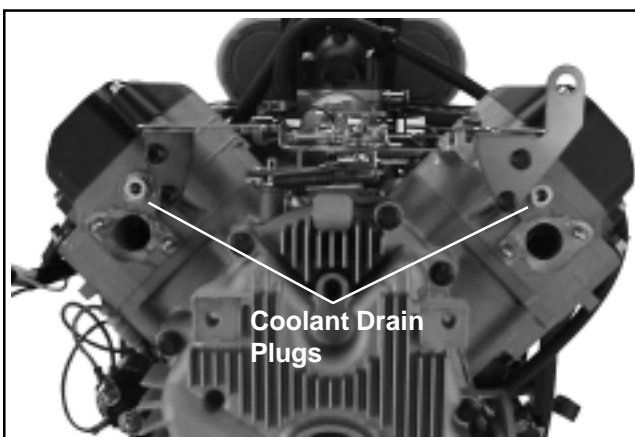

Figure 7-5. Location of Coolant Drain Plugs.
4. Locate and remove the coolant drain plug in the lower side of both cylinder heads. See Figure 7-5.